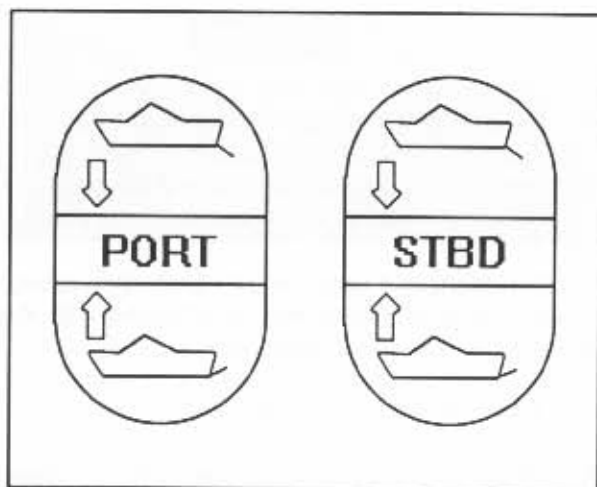

Figure B3: 221L Trim Tab Switches
The trim tab control uses two (2) momentary-type rocker switches. The trim tab switches control the attitude or position of the boat. The trim tab switches are illustrated (with boat drawings) and when depressed, indicate what will happen to the bow of the boat. See Figure B3 & B4.